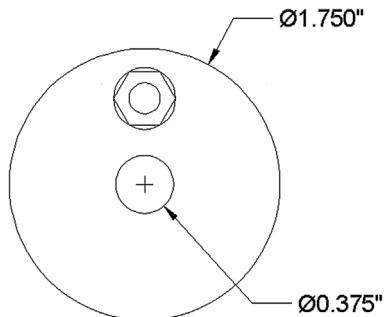

FIGURE 8.25 Bolt array.
**Step 5.** Complete the rest of the top view by drawing the remaining circles and positioning the bolt at the top, as shown in Fig. 8.25. Use accuracy (OSNAPs), although the bolt can be any distance from the top of the circle. Be careful to use diameter, as indicated.